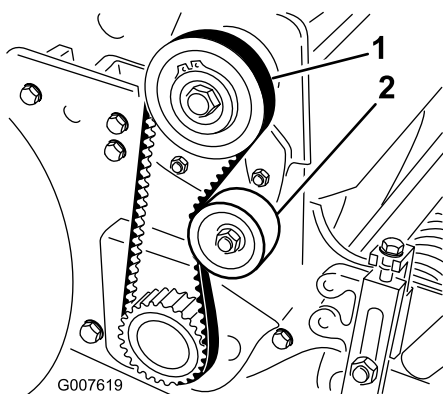

Figure 35
2. Check the tension by pressing the belt at mid span of the pulleys (Figure 35) with 18–22 N (4 to 5 lb) of force. The belt should deflect 6 mm (1/4 inch).
- A. Loosen the idler pulley mounting nut and pivot the idler pulley clockwise against the backside of the belt until you attain the desired belt tension (Figure 35).